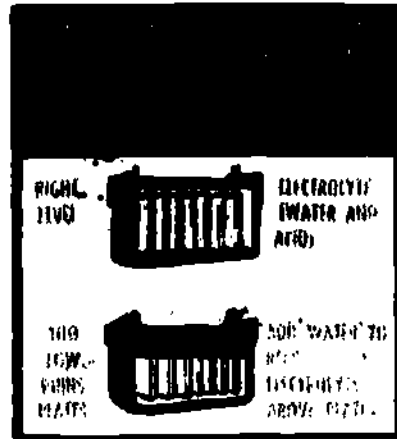

Fig 1-86. Keep battery at proper level.
- Check level.** Insure that the battery has the correct amount and type of electrolyte in it (fig 1-86).